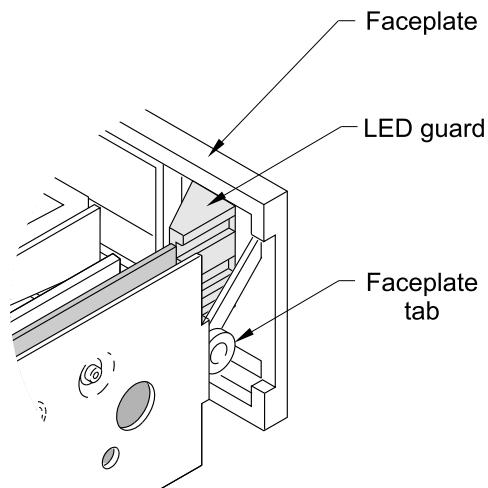

Figure 7 Positioning the faceplate
2. Position the faceplate tabs inside the side panels and press the faceplate onto the tape drive (see Figure 7).